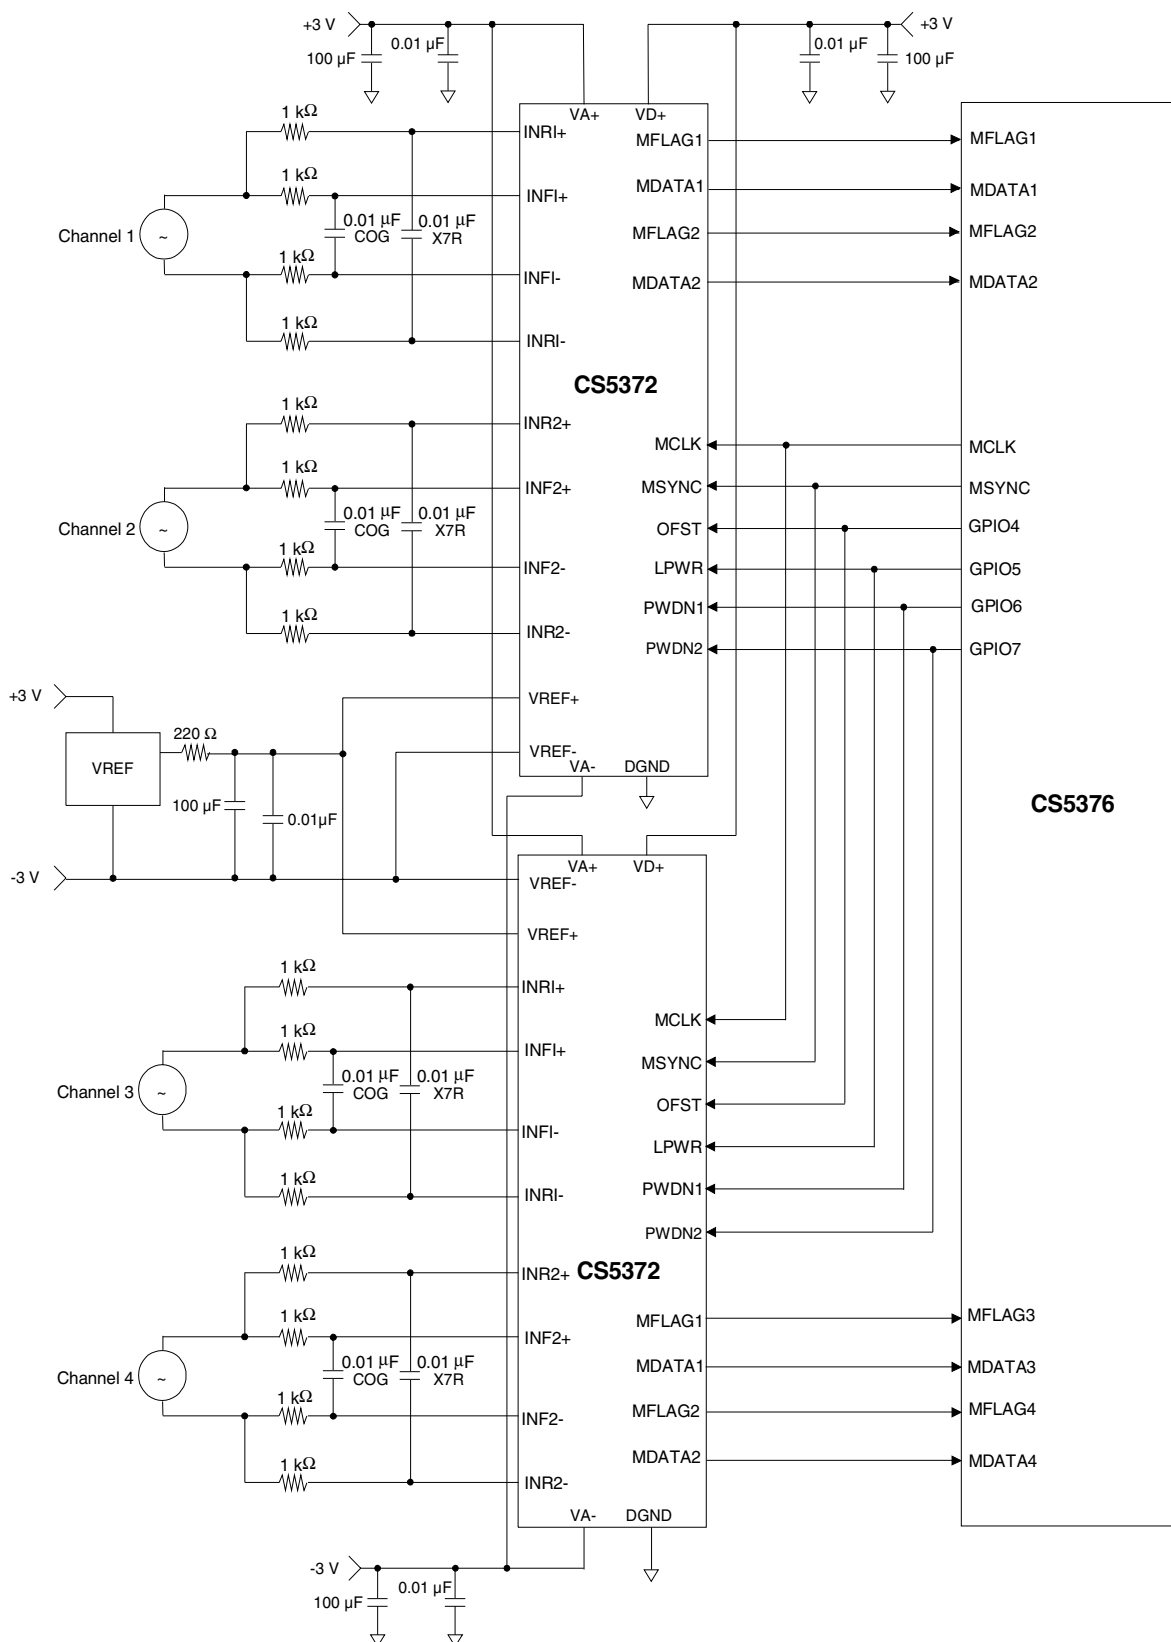

Figure 3. System Connection Diagram
- The input voltage range is for the configuration depicted in Figure 3, the System Connection Diagram, and applies to signal frequencies from DC to the stop-band frequency selected in the CS5376.
The CS5371 and CS5372 are one and two channel fourth-order Δ - Σ modulators, optimized for extremely high resolution measurement of signals between DC and 1644 Hz. They are designed to be used with the CS5376 low power multi-channel decimation filter. Figure 3 on page 8 shows a four-channel system connection diagram for two CS5372 and one CS5376.
Figure 3 illustrates the CS5372/CS5376 system connections with input anti-alias filter components. Filter components on the rough and fine pins should be identical values for optimum performance, with the capacitor values a minimum of 0.01 μF . The rough input can use either X7R or C0G capacitors, while the fine input requires C0G type capacitors for optimal linearity. Using X7R capacitors on the fine inputs will degrade signal to distortion performance up to 8 dB.